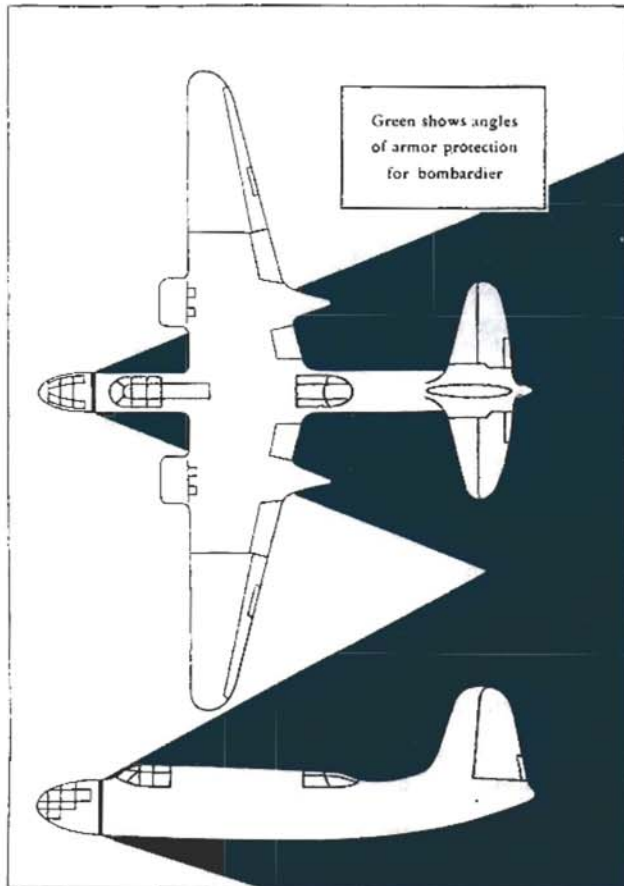

Figure 33—Bombardier's Armor Diagram
b. Armor Protection.—Armor plating is installed, affording protection for the bombardier from fire from the angles as illustrated (Figure 33).